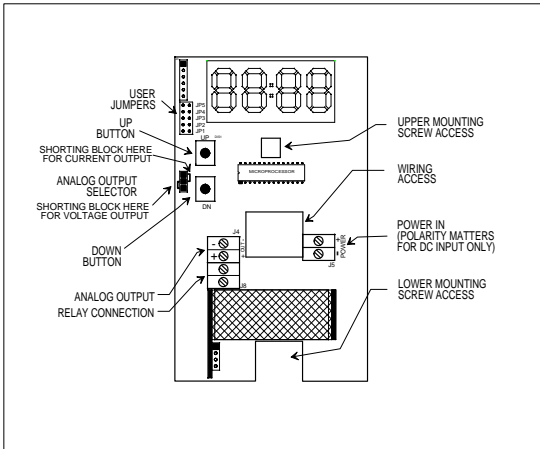

Figure 2: Model 310e Component Locations
The locations of controls and terminals on the main circuit board are shown in the Figure 2 on page 4.
The Model 310e will operate from an AC or DC input voltage between the values called out in the specifications on page 2. The power supply leads are connected to the two-terminal power connector shown in Figure 2.
When operating from DC power, the polarity of the power leads must be as shown in Figure 2. Reversed polarity connection will not damage the unit, but will make it inoperable until the connection is reversed.
The Model 310e provides either a 0 - 10 volt or a 4 - 20 mA current loop output at the two terminals of the analog output connector shown in Figure 2.
The type of analog output is determined by the setting of the analog output selector shown in Figure 2.
Note whether the shorting block at jumper JP5 is covering both pins or only a single pin, then borrow the shorting block and slide it over the two pins of jumper JP4 (see Figure 2). The display (if present) will show 'SEL'
1. **Note whether the shorting block at jumper JP5 is covering both pins or only a single pin**, then borrow the shorting block and slide it over the two pins of jumper JP4 (see Figure 2 on page 4). The display (if present) will show 'SEL'.
4. **Note whether the shorting block at jumper JP5 is covering both pins or only a single pin**, then borrow the shorting block and slide it over the two pins of jumper JP2 (see Figure 2 on page 4). Use the 'UP' and 'DOWN' buttons to change the concentration to the value just calculated.
2. If there is no display on the unit being calibrated, connect a current or volt meter to the analog output terminals. Check the setting of the analog output selector (see Figure 2 on page 4) to determine whether the unit is set for voltage or current output.
borrow the shorting block and slide it over both pins of jumper JP2 (see Figure 2 on page 4).
5. Use the 'UP' and 'DOWN' buttons (see Figure 2 on page 4) to adjust the reading.
The setpoint value is adjusted by closing jumper JP3 (see Figure 2 on page 4). If the display is present when JP3 is closed it will show the current high limit setpoint in ppm CO₂.